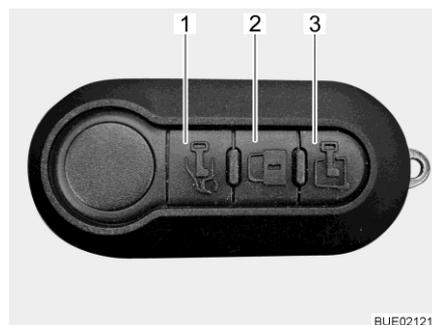

Fig. 68 Multifunctional remote control (3 buttons)
- Unlocking driver's door: ■ Press the  button (Fig. 68,1) once briefly. The driver's door is unlocked.
- Unlocking conversion door: ■ Press the  button (Fig. 68,3) once briefly. The conversion door is unlocked.
- Locking all doors: ■ Press the  button (Fig. 68,2) once briefly. All doors have been locked.